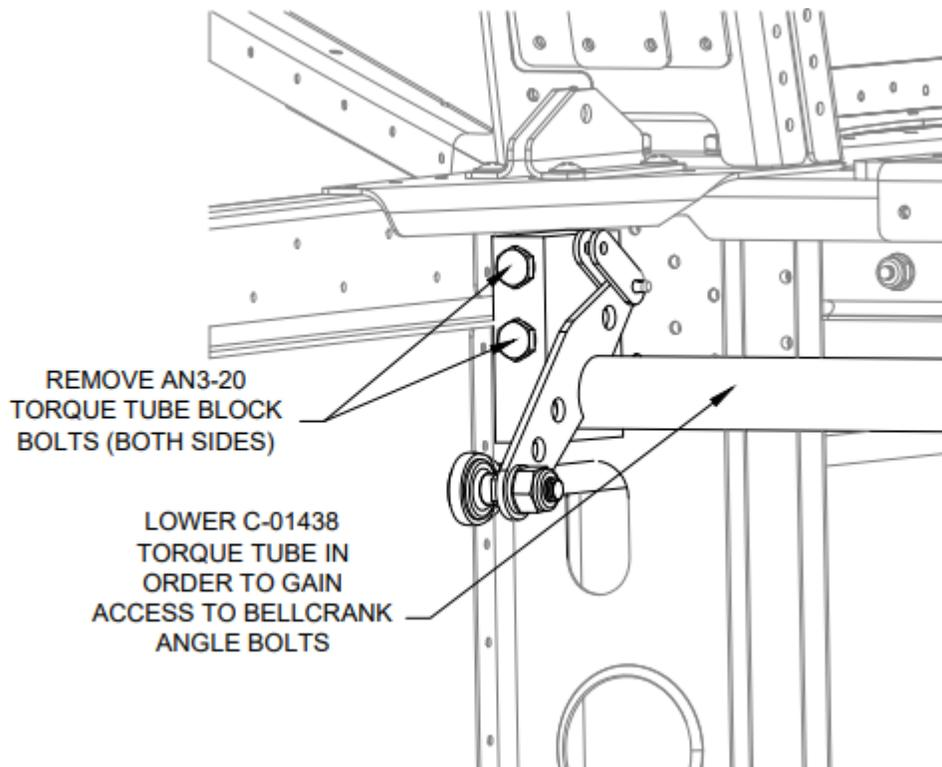

FIGURE 8: BELLCRANK ANGLE BOLTS ACCESS
Step 8: Remove Torque Tube Block bolts on both sides and lower the Torque Tube. This will gain access to the Latch Bellcrank Angle bolts. See Figure 8.